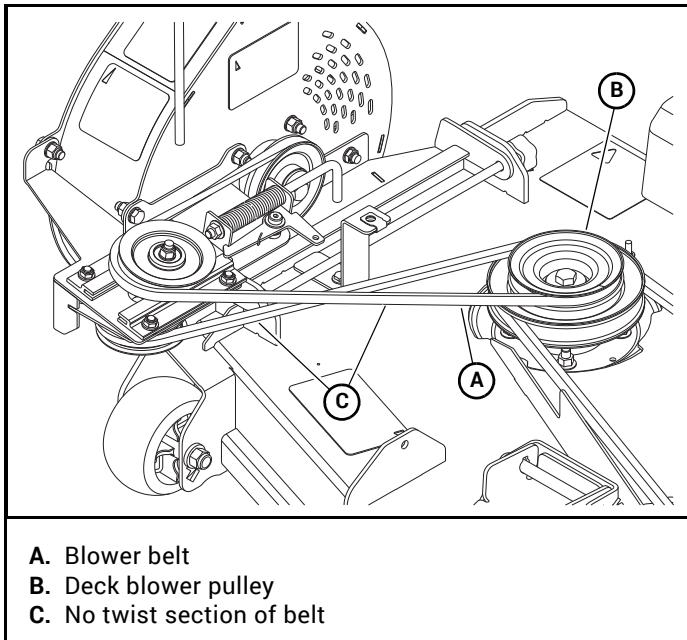

Figure 3-26
**NOTE:** Make sure the two longest sections of belt are not twisted. Figure 3-26